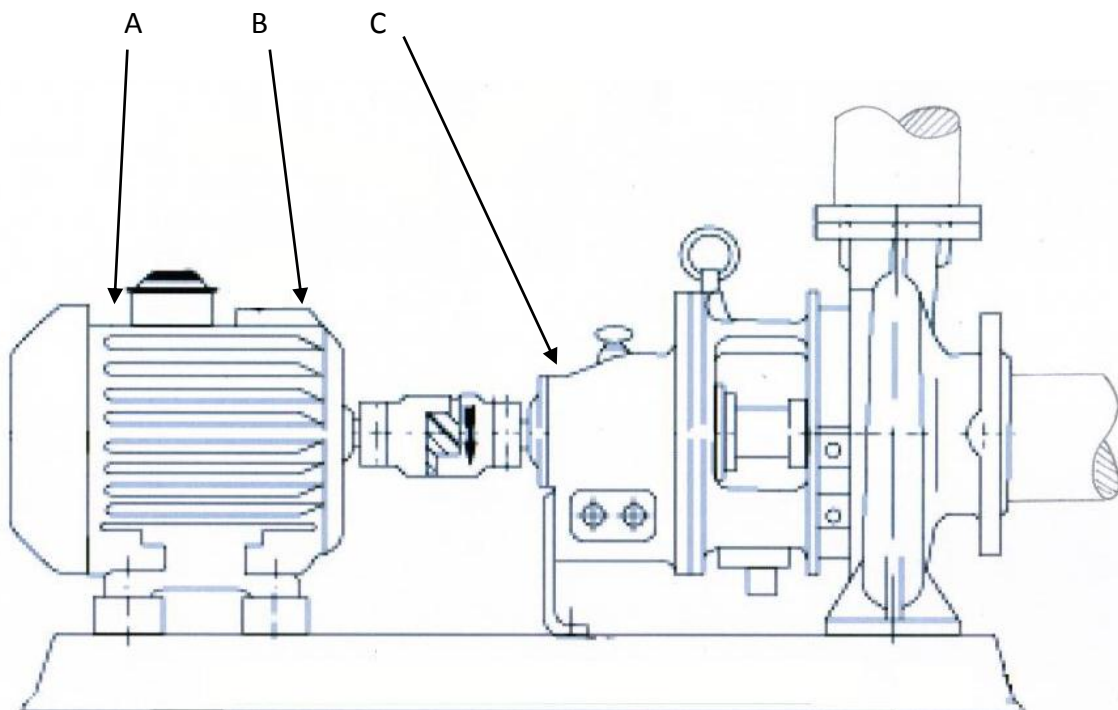

Fig. 5.1
5.2.2 Fig. 5.1 below shows some typical measurement points. For attaching magnetic base, first tilt the magnet by 45 degrees, then attach to the point under test and then release it. To avoid errors due to hand shake, do not hold sensor during measurements. **DO NOT ATTACH ACCELEROMETER TO HOT SURFACES greater than 60 deg. C..!**
Also for motors, there are two sides to be measured. i.e. the side that carries the load; this is the side that has the output shaft and usually will have a gear or pulley attached to it (eg. Point B of fig. 5.1), and the unloaded side of the motor (eg. point A of fig. 5.1), which would usually have an internal fan (which you cannot see) attached to its shaft, with a cowling covering this fan. The part that carries the load will indicate the higher values of vibration, and usually is likely to experience damage to the roller bearings (if any). More attention should be given to this end (point B of fig. 5.1), and ought to be included in your data collection.
The unloaded side of the motor is (point A of fig. 5.1) difficult to measure, since usually the cowling and the cooling fan will hinder your ability to attach the accelerometer, however you can attach the accelerometer onto the cooling fins (cooling fin adapters are available for this purpose), and as close to the edge as possible. Note that attaching to the cowling will not really enable you to obtain a true measurement of the motor vibration. It is very important to make your measurements at the same spot every time, so it is advisable to mark the spot with paint or permanent marker. Below are examples of ways to measure the unloaded end of a motor.